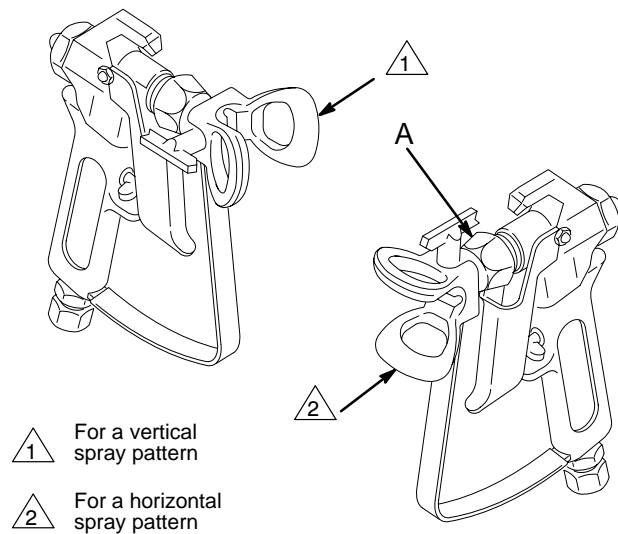

Fig. 8
The tip guard alerts you to the risk and helps prevent placing any part of the body close to the spray tip. The tip guard also adjusts the vertical or horizontal spray pattern. See Fig. 8. The tip guard holds a reversing spray tip. The tip is in the spraying position when the tip handle points forward. See Fig. 6.
- c. Adjust the direction of the spray pattern. See Fig. 8. Engage the gun safety latch. Loosen the retaining nut (A). Position the tip guard for a horizontal or vertical pattern. Hold the tip guard in place and tighten the retaining nut.